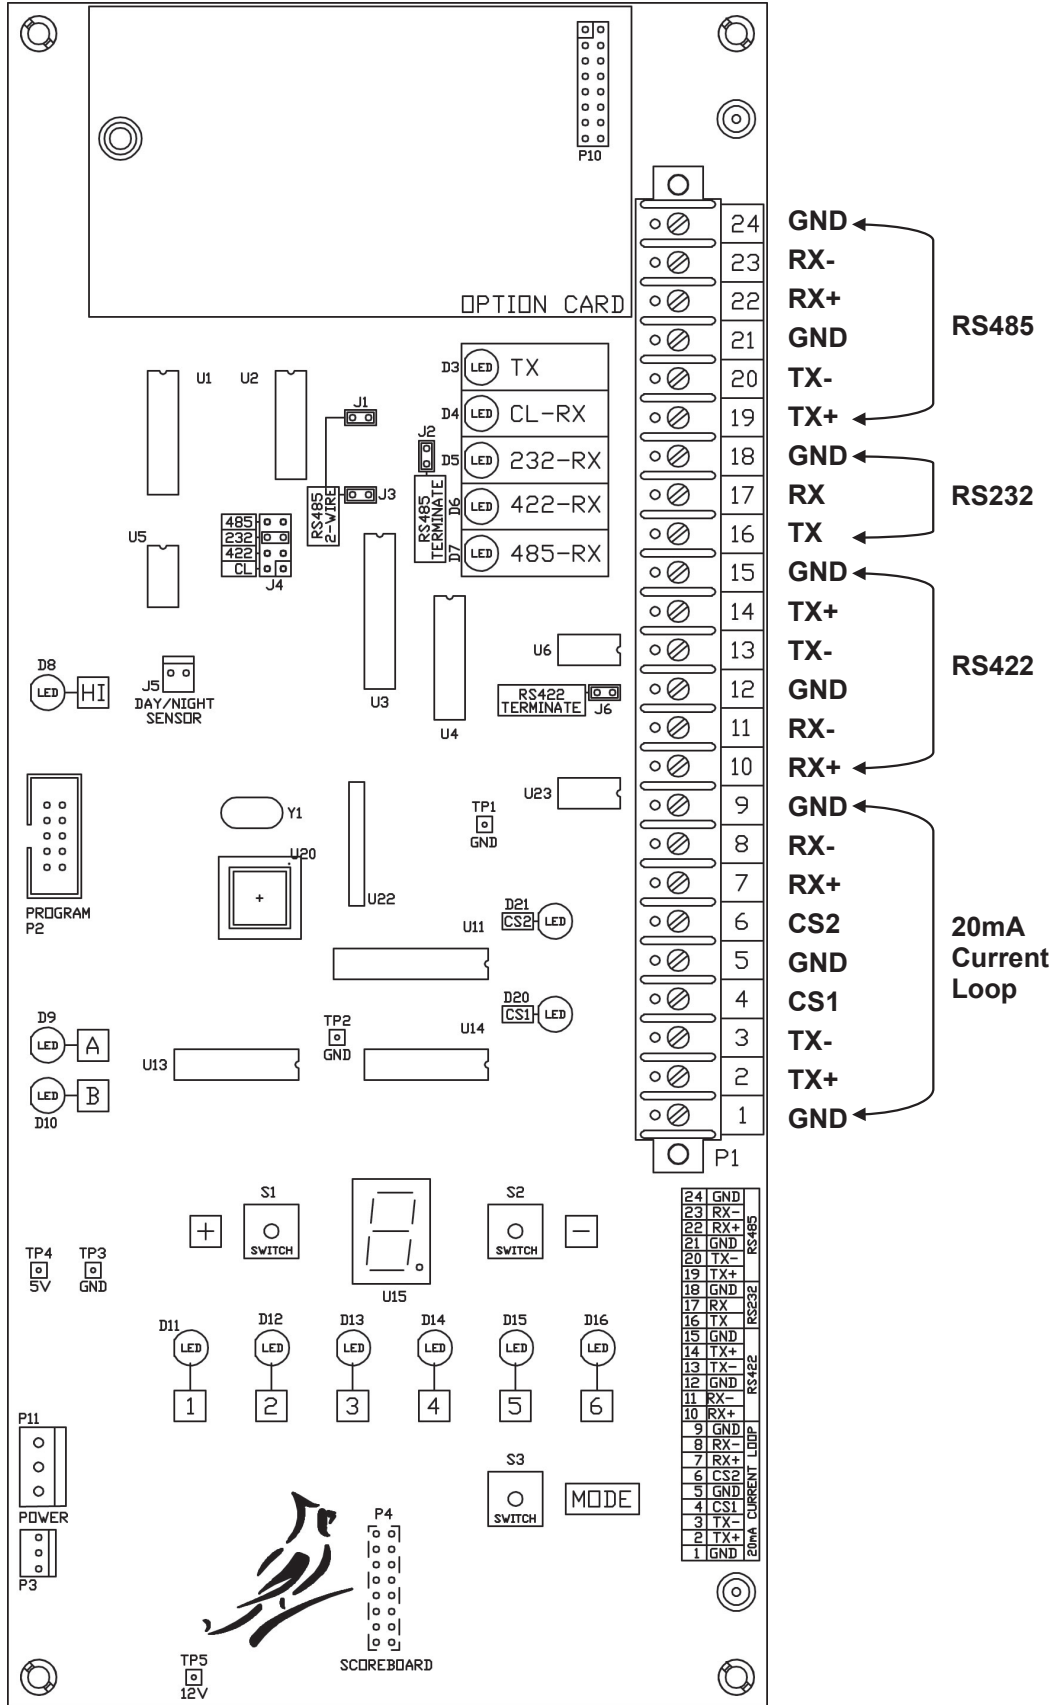

Figure No. 5
- P1** = 24 terminal connector for serial cable connections. Refer to Figure No. 5.
4. Referring to Figure No. 5 for the location of the terminal block and for the correct terminal connections, connect each of the wires to the terminal block.
- Referring to Figure No. 5 for the location of the terminal block and for the correct terminal connections, connect each of the wires to the terminal block.